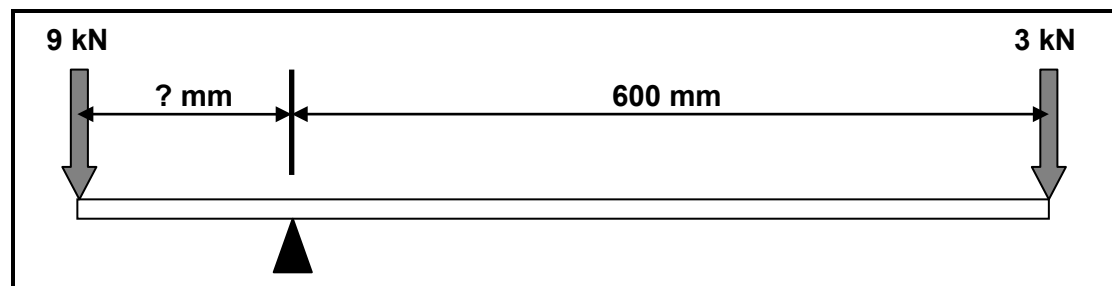

FIGURE 1.2
1.13 The beam in FIGURE 1.2 below is in equilibrium. Calculate the distance between the support point and the 9 kN load.